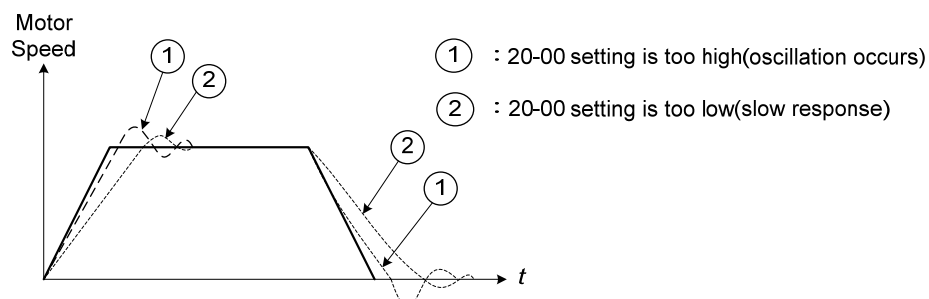
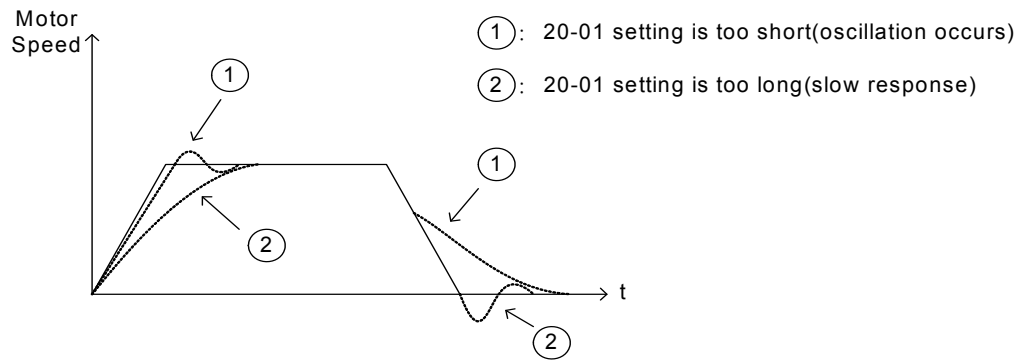

Figure 4.4.97 System response of ASR proportion gain
Figure 4.4.98 The response of ASR integral time
- Integral control makes the motor speed as quickly as possible reach to the target speed but may cause overshooting or oscillation. Refer to Fig. 4.4.97 & Fig.4.4.98.
Use parameter 20-00 and 20-02 to adjust the speed response for each cycle. Tuning the settings of 20-00, 20-02 can increase system response, but may cause system instability. See Fig.4.4.97.
Derating of torque compensation function can reduce derating effect of ASR at shock load. Refer to Fig. 4.4.97 & Fig. 4.4.98.